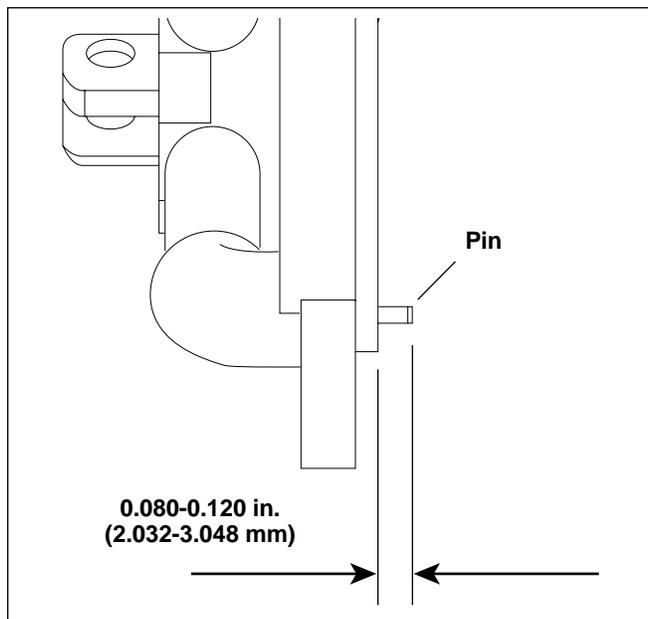

Figure 5. Measuring Roll Pin Protrusion
1. See Figure 5. Measure isolator roll pin protrusion on both left and right isolator mounts with calipers or metal rule. Roll pin should not protrude more than 0.120 in. (3 mm). If roll pin protrudes more than 0.120 in. (3 mm) file or grind until within specification; 0.080-0.120 in. (2.032-3.048 mm). Use care when filing to avoid creating sharp edges.
3. See Figure 5. Measure isolator roll pin protrusion on both left and right isolator mounts with calipers or metal rule. Roll pin should not protrude more than 0.120 in. (3 mm). If roll pin protrudes more than 0.120 in. (3 mm) file or grind until within specification; 0.080-0.120 in. (2.032-3.048 mm). Use care when filing to avoid creating sharp edges.